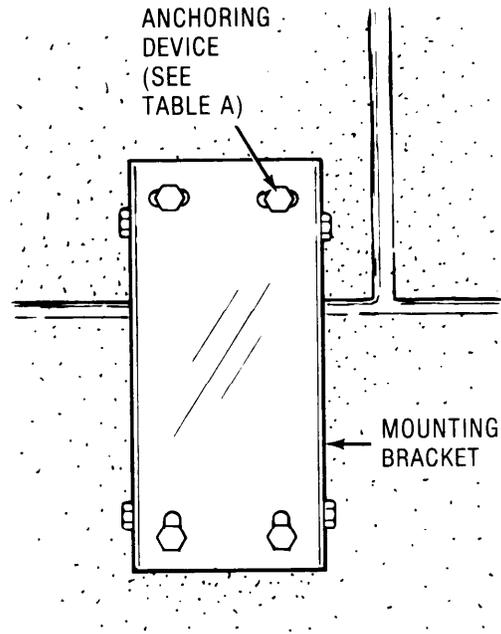

Fig. 10 — Mounting Bracket Secured to Wall
- (a) Attach the mounting bracket as illustrated in Fig. 10.